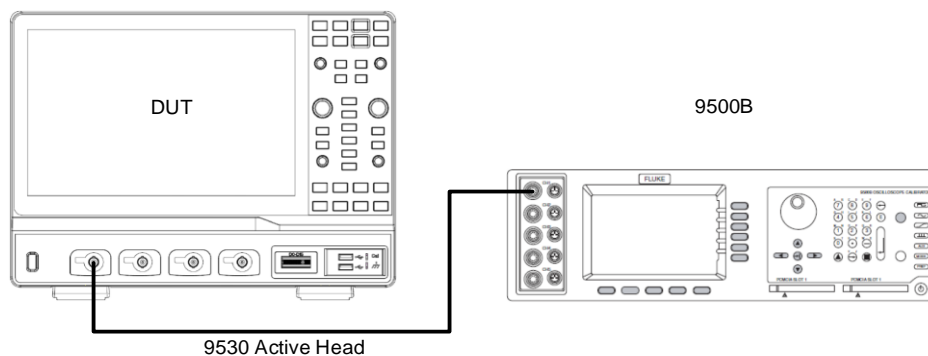

Figure 8 Test setup for DCG / Offset / Timebase...
Note: The 9530 active head in Figure 8 is connected to any channel of the 9500B, and its BNC connector is connected to the specified channel of the oscilloscope according to the test.
2. Connect a selected channel of the oscilloscope to the 9500B with an active head as shown in Figure 8.